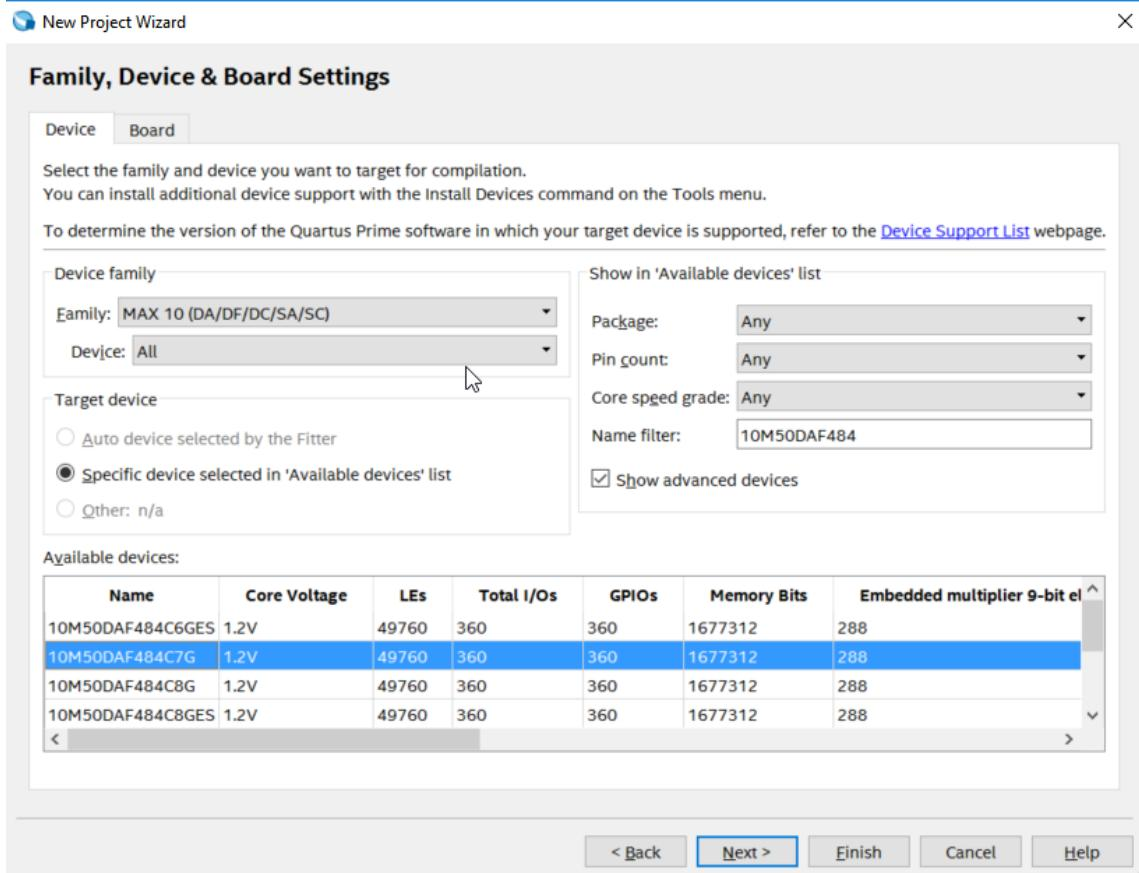

Figure 5: Correct settings for the DE10-Lite Development Board
- Refer to Figure 5 above for filling out the device number (depending on the board you are using).